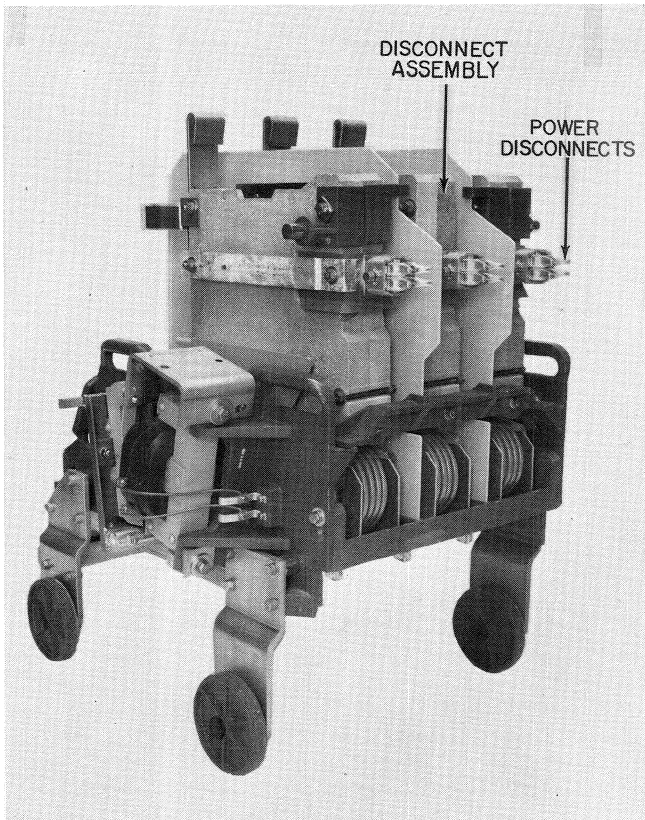

Fig. 3. IC2814E220-one-high contactor showing power disconnect assembly in its closed position
With the exception of the IC2814E210 and E211, power can be removed from the contactor by moving the power disconnect fingers located on the arc chute assembly (see Fig. 3) out of engagement with the vertical bus bar. This is done by rotating the complete disconnect assembly.
Power disconnects (see Fig. 3) are provided so that contactors can be removed or installed in enclosures without having to disconnect or connect cables. Control disconnects are also provided for this same purpose.
6. With the power disconnect assembly in its closed position (see Fig. 3), operate the magnetic armature assembly by hand again to see that all parts operate freely and that moving parts do not rub on the arc chutes.